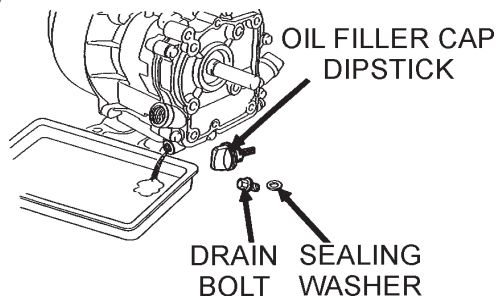

Figure 27. Engine Oil (Draining)
1. Drain the engine oil when the oil is **warm** as shown in Figure 27.